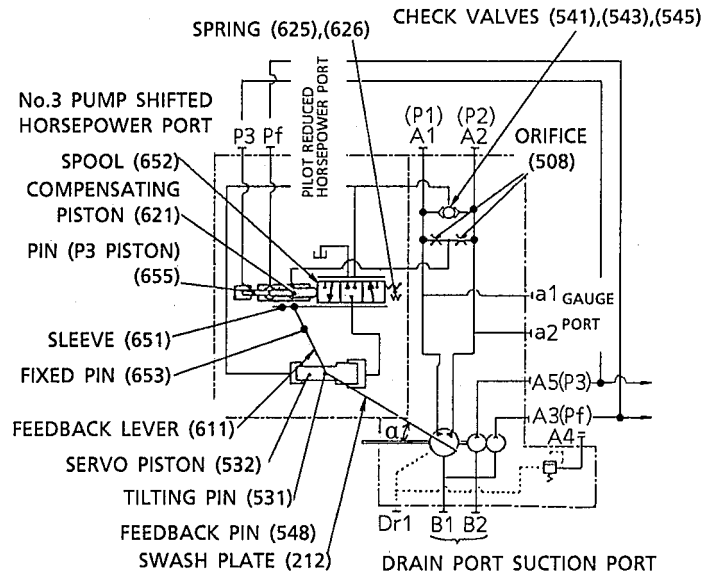

Fig. 1-6 Functional explanation of regulator
2) Function of added full horsepower control (See Fig.1-6.)